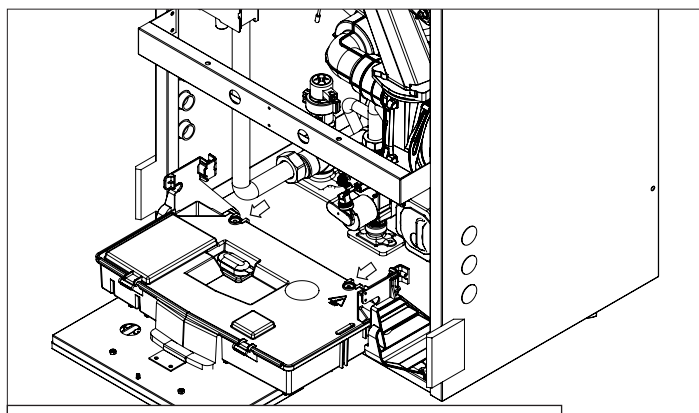

Figure 48 - Disconnecting the Two Clips
6. Disconnect the two clips See Figure 48.